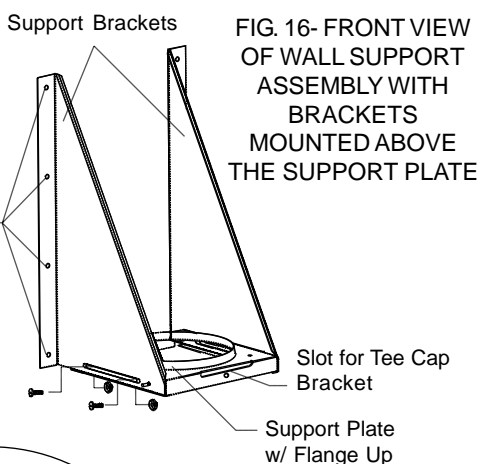

FIG. 16- FRONT VIEW OF WALL SUPPORT ASSEMBLY WITH BRACKETS MOUNTED ABOVE THE SUPPORT PLATE
NOTE: If ground clearance does not permit the installation of the Wall Support with the Support Bracket facing down, it is permissible to invert these brackets. Inverting the brackets (brackets mounted on the wall above the support plate) can be accomplished by rotating the Support Plate so that the threaded stud faces toward the front and securing each side with (2) #8 x 3/4" bolts (not supplied) through the oblong slots of the support side brackets and the support plate as per Figures 16 and 17. Secure with nuts. In this position, the range of